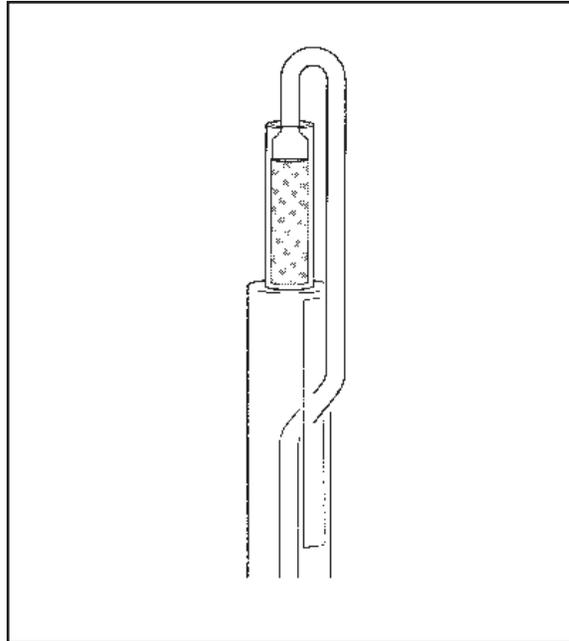

Figure 4.10
13. Close the probe until it just rests on top of the filling medium. Gently tap the probe to seat it (see Figure 4.10).